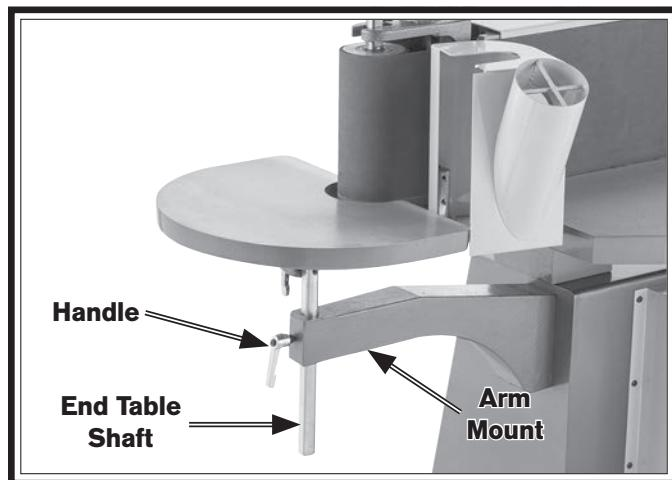

Figure 23. End table installed.
- 13.** Insert end table shaft into machine arm mount and secure with M10-1.5 x 30 handle (see **Figure 23**).